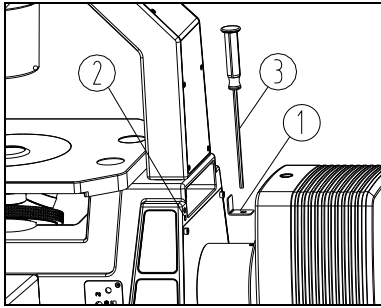

Fig. 29
- (1) Adsorb the spanner fixed mount onto the magnet② of microscope body. (See Fig. 29)
- (2) Insert the M4 inner hexagon spanner③ into the hole of spanner fixed mount①.